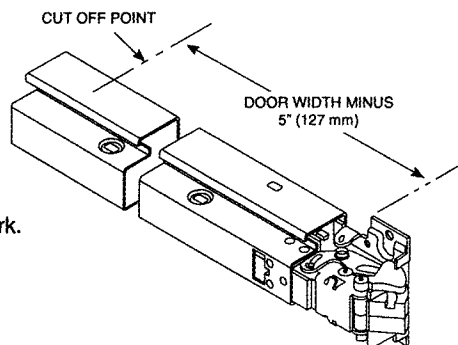

Figure 3
- B. Measure and mark bar as shown (See Figure 3).